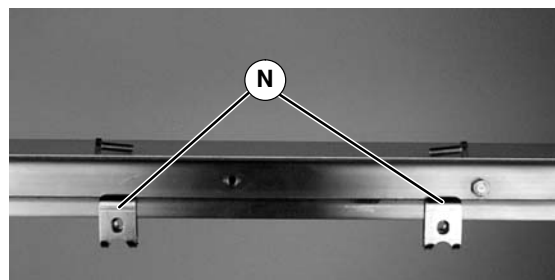

Figure 7
1. Install mounting clips (N of Figure 7) on conveyor.